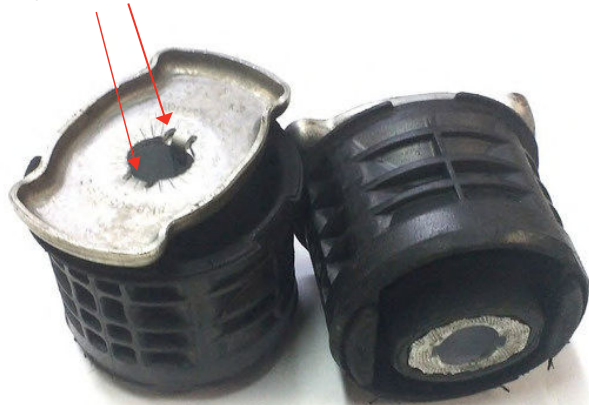

Figure 1
3. Remove the lower metal retaining plate with a screwdriver by prying the small tabs out as shown in Fig 1.